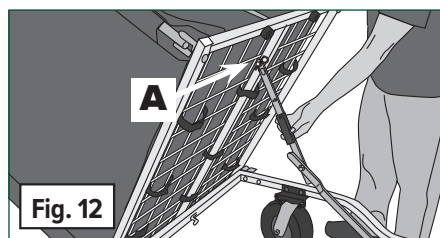

Fig. 12
4. **(Fig. 12)** Raise the collector bag by lifting the front corner of the collector frame (A) and **lock the dump linkage in the up position.**